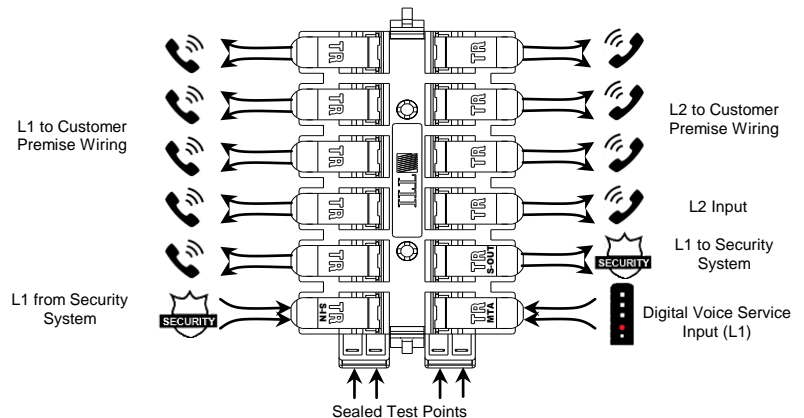

Figure 2
2.6 Terminate wires going to and from security system, and customer telephone wires as required following the above steps and using Figure 2 as reference.